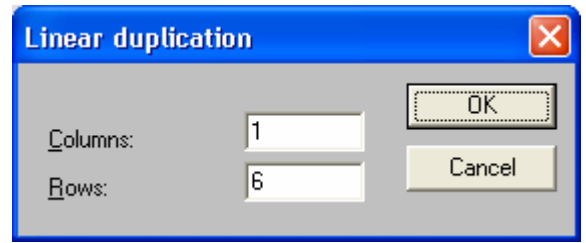

Figure 7-14 Linear Duplication Dialog
- A dialog box will open, and we’ll enter the numbers “1” for Columns and 6 for Rows and then click “OK” (Figure 7-14).